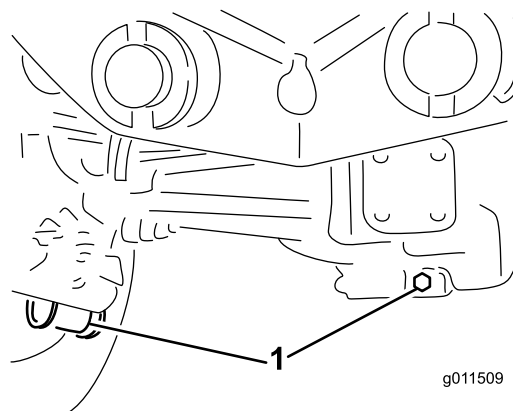

Figure 65
2. Clean the area around the 3 drain plugs; 1 on each end and 1 in the center (Figure 65).